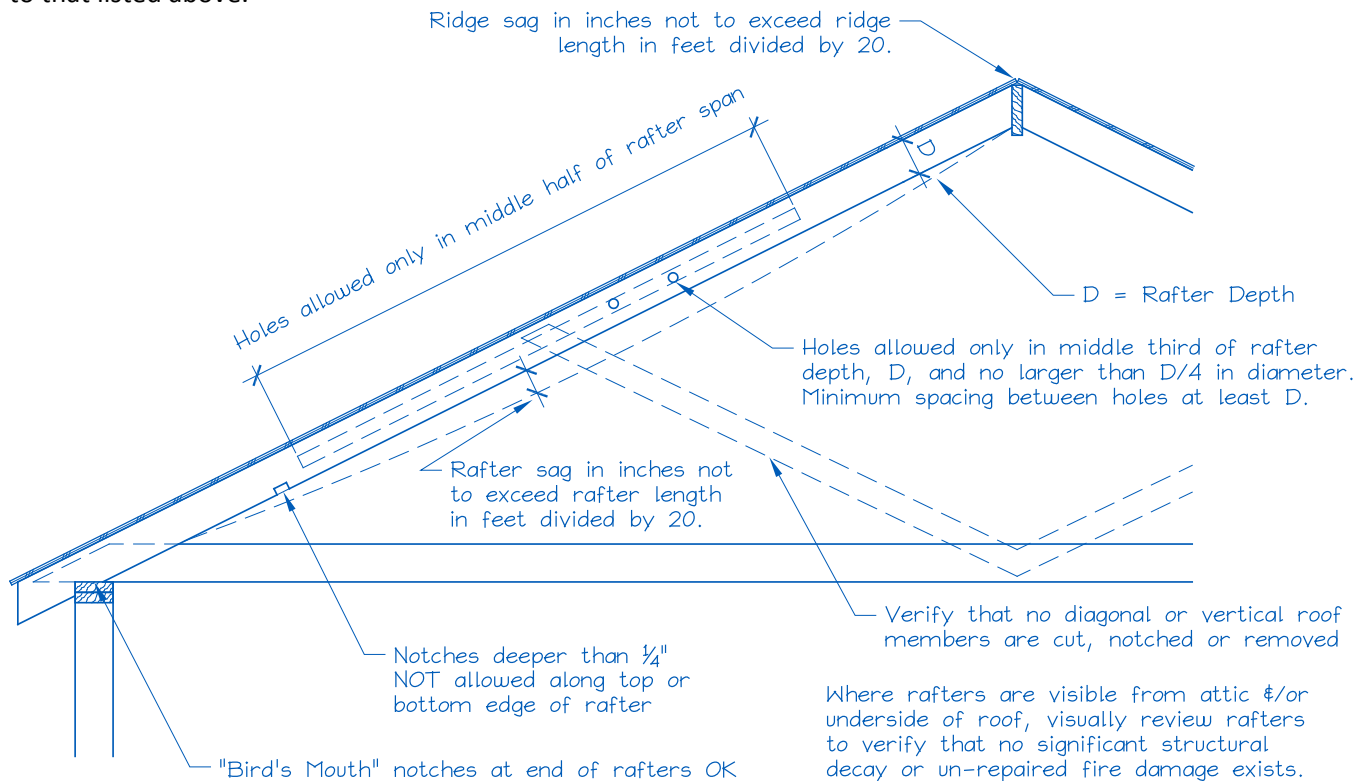

Figure 1. Roof Visual Structural Review (Contractor's Site Audit) of Existing Conditions.
- 2) Does the roof structure appear structurally sound without signs of alteration, structural deterioration, or sagging, as illustrated in Figure 1? ☐ Y ☐ N